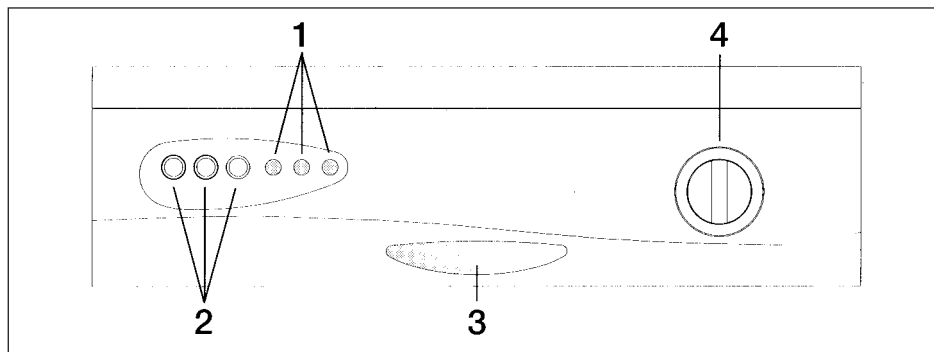

Fig. 17
- a) Turn program selector knob 4 (fig. 17) clockwise until the desired program number coincides with the line on the switch.
- b) Press the on-off button (fig. 17). The control light is illuminated showing that the machine has been switched on. The dishwasher will then automatically go through all the phases of the preset wash program. At the end of the cycle there is no need to dry the dishes because drying is done automatically. The dishes can be removed or left in the machine until the next meal.
After the wash cycle the dishwasher stops automatically while the power control light (fig. 18) stays on. To turn it off press the ON-OFF button (fig. 17).
## CONTROL AND INDICATOR ELEMENTS (Fig. 17)